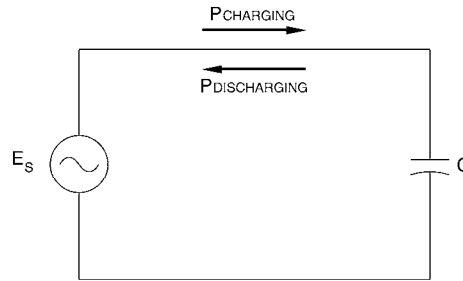

Figure 3-1. Power flow during charging and discharging.
When the ac voltage increases, the capacitor stores energy, and when the voltage decreases, the capacitor releases the stored energy. During the storing period, the capacitor is a load on the source, but during the releasing period, the capacitor actually returns power back to the source. This produces an interesting situation in which the capacitor acts periodically as a source of power returning energy to the source that gave it power in the first place. In ac circuits, power flows back and forth between the capacitor and the power source, and nothing useful is accomplished. As Figure 3-1 shows, power flows from left to right when the capacitor is charging, and from right to left when it is discharging.
If a wattmeter is connected to measure power in the circuit of Figure 3-1, it will indicate zero since no power is dissipated in the capacitor. The wattmeter actually tries to indicate positive when the capacitor charges, and negative when it discharges, but power flow reversal takes place so quickly that the meter pointer cannot follow. The real power, or **active power** as it is more properly known, that is associated with an ideal capacitor is therefore zero. However, there is a voltage drop across the capacitor and current flows in the circuit. The product of $E \times I$ is known as **apparent power**, expressed in volt-amperes (VA). For the special cases of purely capacitive and inductive ac circuits, the apparent power is known as **reactive power**, expressed in var (volt-amperes reactive). Observation of the instantaneous power waveform shows that there are instances of both positive and negative power peaks in reactive circuits, which corresponds to the fact that power swings back and forth between the load and the source. As you will learn in this unit, the **capacitive phase shift** between the voltage and current is directly linked to the alternating power flow direction.